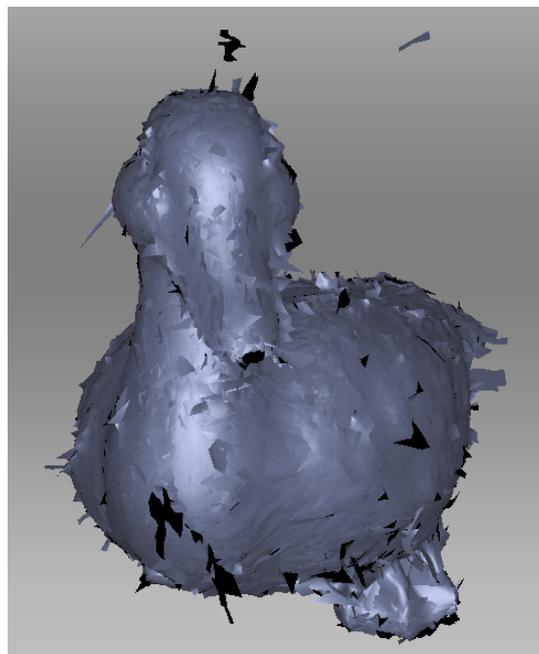

Figure 88: Alignment result.
4. Click *Align...* to run the alignment with your specified constraints (Figure 88 shows example results). If you are dissatisfied with the alignment results, click  and specify additional point sets, or reposition the current sets. To redo an operation that you have undone, click .